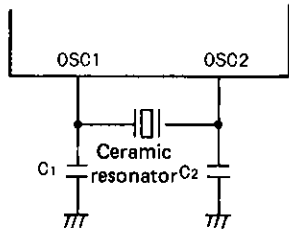

Fig. 1 Ceramic Resonator Oscillation Circuit
- (Note 1) When oscillated internally under the oscillating conditions in Fig. 1, up to the oscillation amplitude generated is allowable.